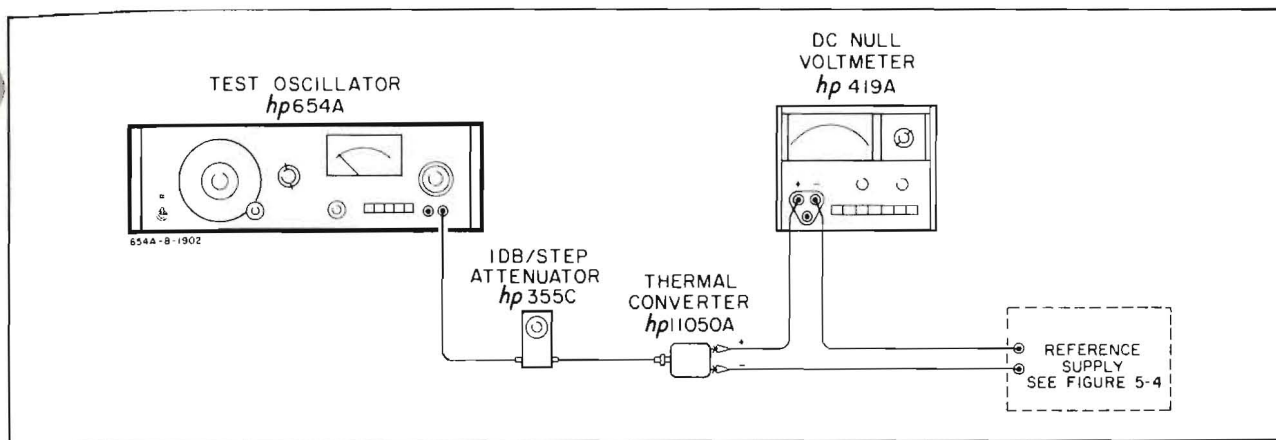

Figure 5-16. Meter Tracking Adjustment
- e. Connect the equipment shown in Figure 5-16 and set the external attenuator for 0dB attenuation.